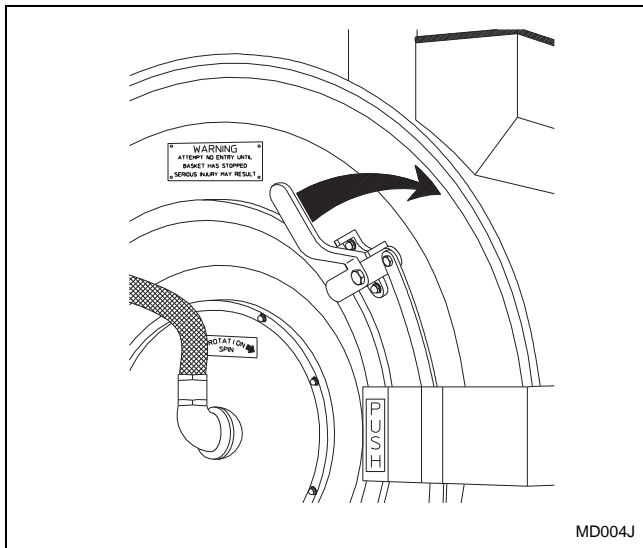

Figure 19
3. Use right hand to turn door handle clockwise, and swing the door left to open. Refer to *Figure 19*.